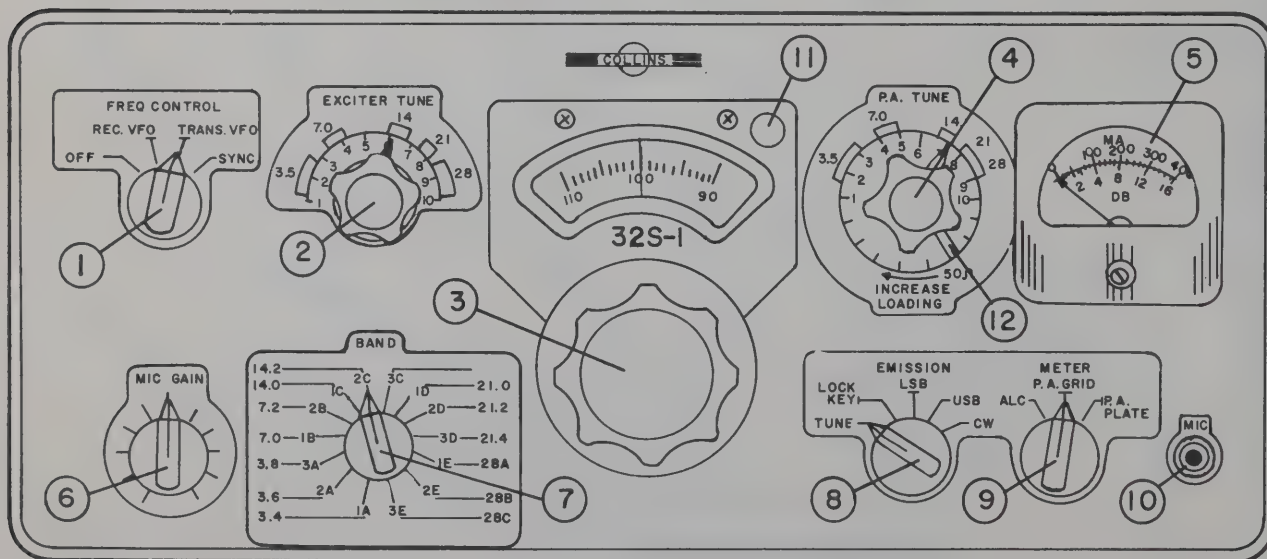

Figure 2-1. Panel Controls
- Set controls as shown in figure 2-1.
- Set EXCITER TUNING (2) and P.A. TUNING (4) to desired band.
- Set tuning dial (3) to desired frequency within band. For example, if BAND switch (7) is set to 14.0, and the desired frequency is 14.195 mc. set dial to 195. To read frequency, add the dial setting to the BAND switch setting. As an example, if the BAND switch is set to 3.8 and the dial is set to 5, the frequency is 3.805 mc. If the BAND switch is set to 3.8 and the dial is set to 170, the frequency is 3.970 mc.
b. Set EMISSION switch (8) to desired sideband (USB or LSB).
c. Set METER switch (9) to ALC.
d. While talking into microphone, advance the MIC GAIN (6) until the meter indicates about 6 db average (lower scale). Peaks may be much higher. If vox circuits transfer between words, increase the release time constant by turning the VOX TIME CONSTANT control (under top cover) clockwise. If less release time is desired, turn the control counterclockwise.
k. If the transmitter is connected with a 75S-1 Receiver, as shown in figure 2-1, and it is desired to zero beat the transmitter to a frequency tuned on the receiver, proceed as in paragraph 2.1, step i.